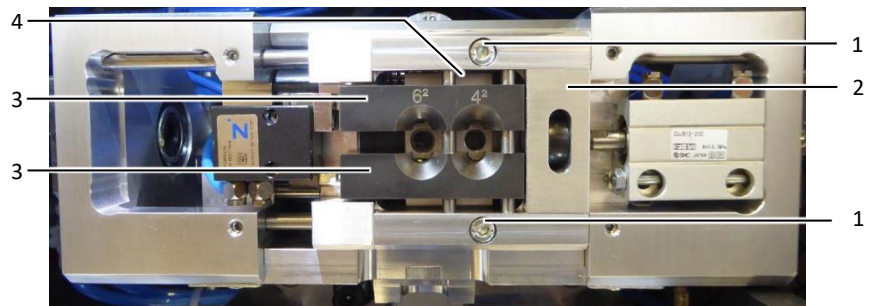
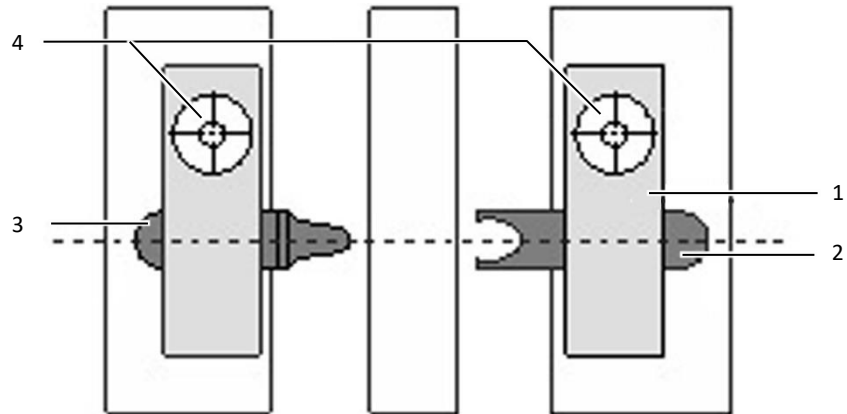

Fig. 6: Ferrule centring jaws
Fig. 9: Crimping tool
- Loosen the fastening screws (fig. 6, item 1).
- Remove the ferrule centring jaws (fig. 6, item 3).
- Loosen the fastening screws (fig. 9, item 4) of the two retaining plates (fig. 9, item 1). Move the carriage (fig. 6, item 2) to the right or left.
- Remove die and anvil (fig. 9, item 2 and 3).